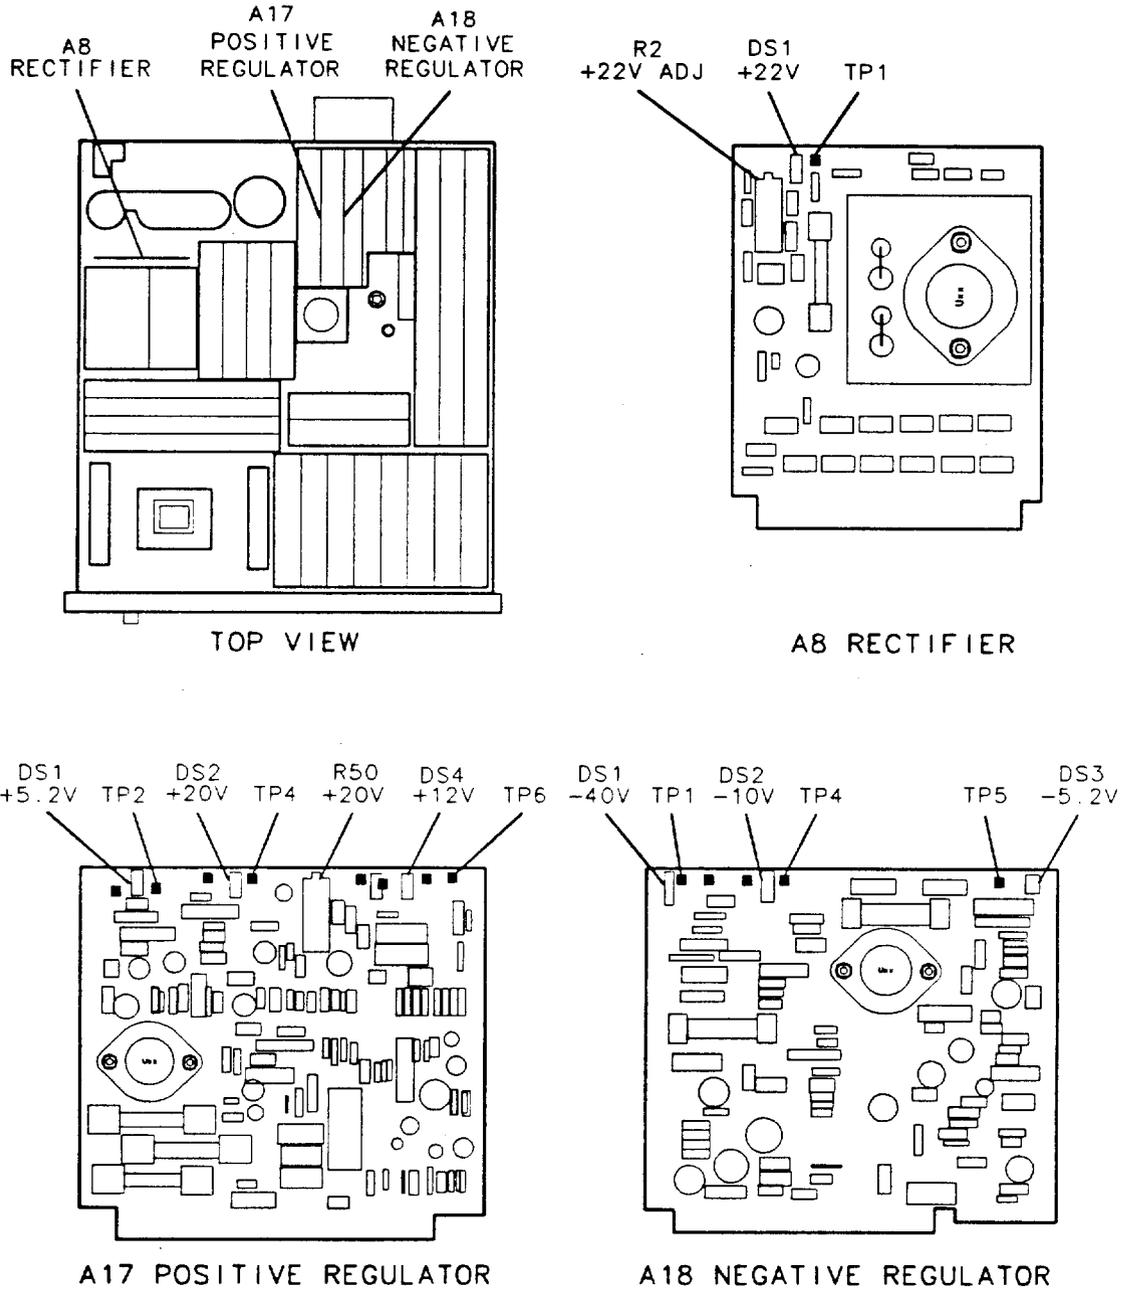

Figure 3. Location of RF Section Low-Voltage Adjustments
11. Connect the DVM to A8TP1. Connect the ground lead to chassis ground. The +22 V indicator A8DS1 (yellow LED) should be lit. See Figure 3.